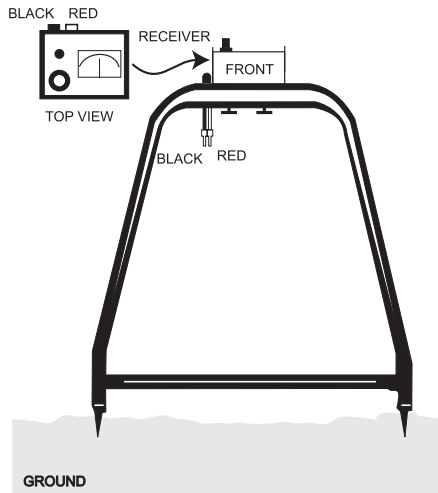

Figure 2. Receiver Setup
3. With the transmitter off, attach the receiver to the "A" Frame and connect the "A" Frame receiver leads to the receiver input jacks – the black lead to the black jack and the red lead to the red jack. (See Figure 2.)